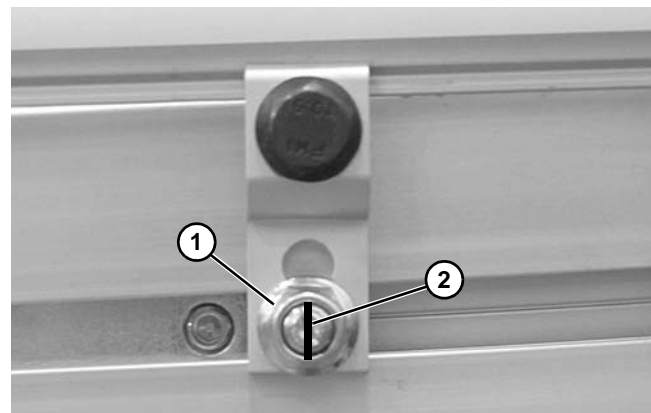

Figure 86
3. Tighten nuts (**Figure 86, item 1**).
*Be certain that slot (**Figure 86, item 2**) is close to vertical when finished tightening nut.*